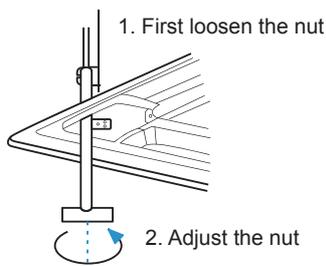

Figure 4.23
- If it does not affect the lifting and lowering of the indoor unit and the water discharge piping, you can use the openings at the four corners of the panel to adjust the height of the indoor unit. See Figure 4.23.